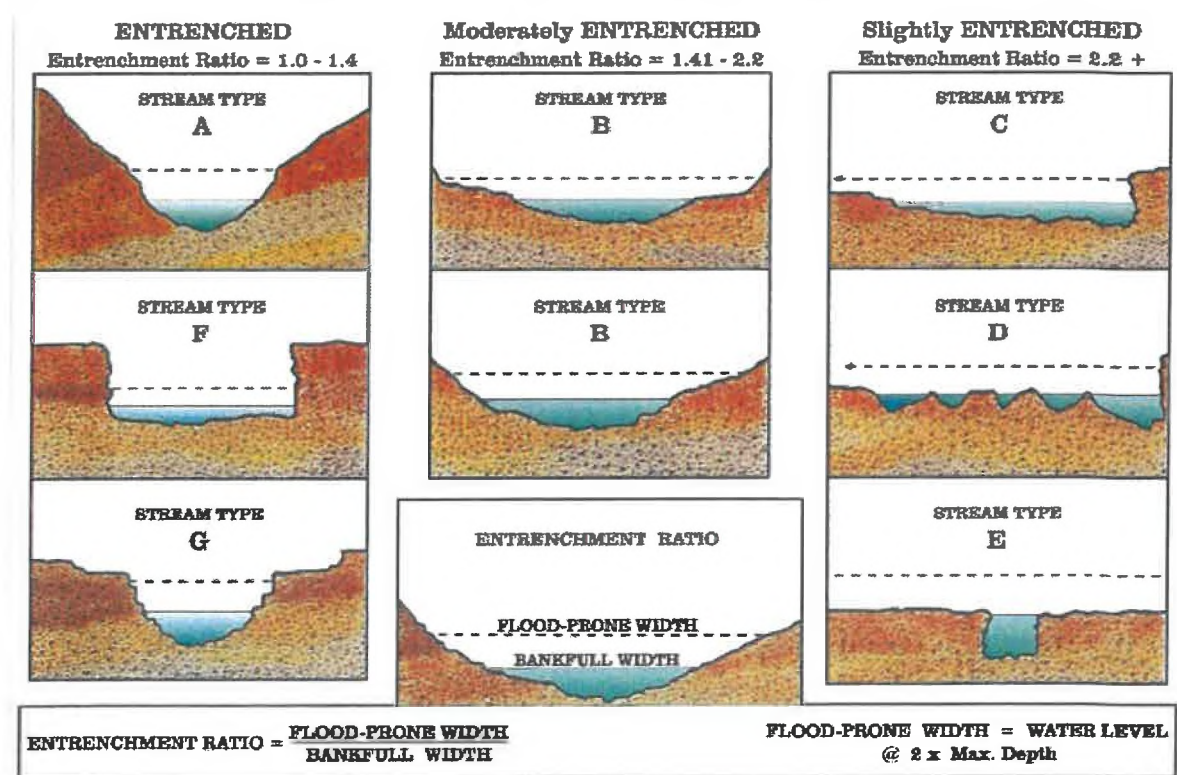

Figure 3: Reference from Applied River Morphology, Rosgen, 1996.
* Note: Proposed Entrenchment Ratio must meet the minimum ratio for each stream type listed in Figure 3, otherwise the applicant must address the Alternative Design criteria listed in Env-Wt 904.10.
NOTE: If the proposed crossing does not meet all of the general design considerations, the tier specific design criteria, or the minimum entrenchment ratio for each given stream type listed in **Figure 3**, then an alternative design plan and associated requirements must be addressed pursuant to Env-Wt 904.10.